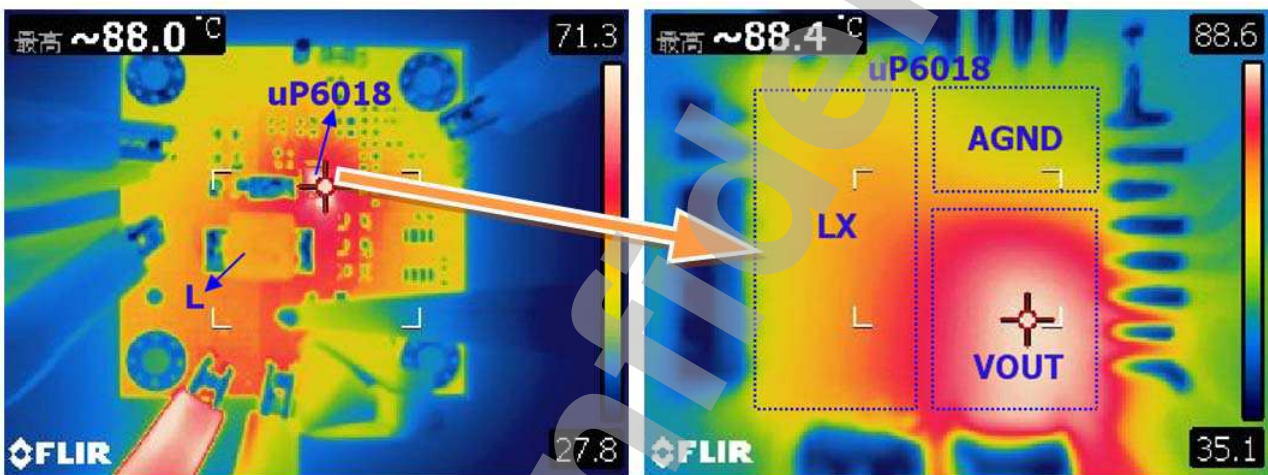

Figure 1. Thermal Image
8. The exposed pad III(VOUT) have the most heating of the IC (shown as figure1), please increase VOUT copper plane as wide as possible to get better thermal performance.